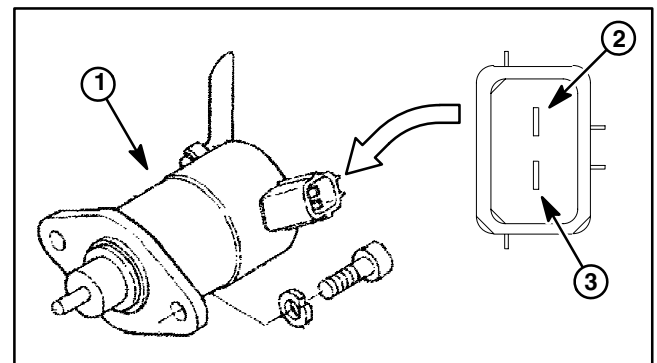

Figure 38
2. Using a digital multimeter, touch one test lead to the pull coil terminal and the other test lead to the fuel stop solenoid frame (ground) (Fig. 38). The resistance of the pull coil should be less than 1 ohm (but not zero).
3. Using a digital multimeter, touch one test lead to the hold coil terminal and the other test lead to the fuel stop solenoid frame (ground) (Fig. 38). The resistance of the hold coil should be approximately 15 ohms.
4. Touch a negative (–) test lead from the 12 VDC source to the fuel stop solenoid frame (ground) (Fig. 38). The solenoid should engage, making an audible “click,” and the plunger should retract.